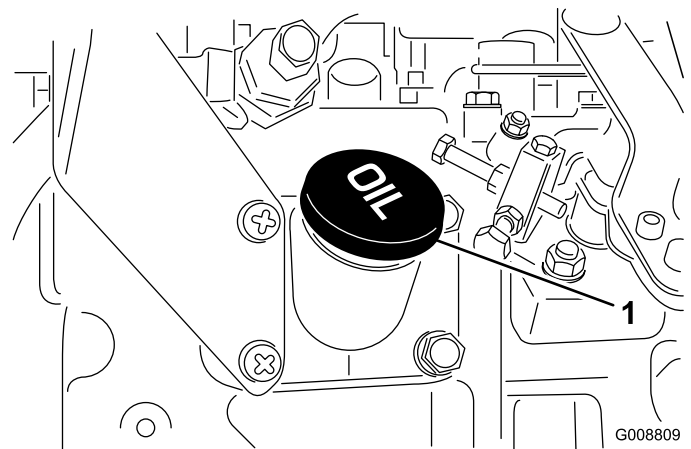

Figure 20
4. If the oil is below the safe range, remove the fill cap (Figure 20) and add oil until the level reaches the Full mark. **Do not overfill.**